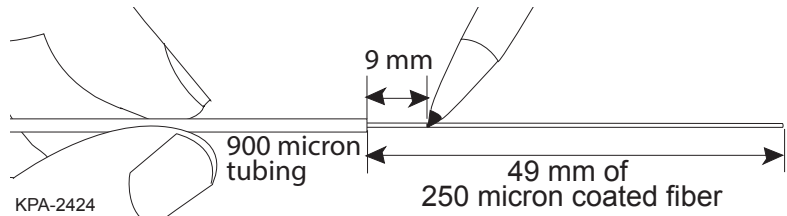

Figure 6 — Mark 250 Micron Coating
- Step 4:** Measure and mark the 250 micron coated fiber 9 mm from the end of the furcation tubing (Figure 6).